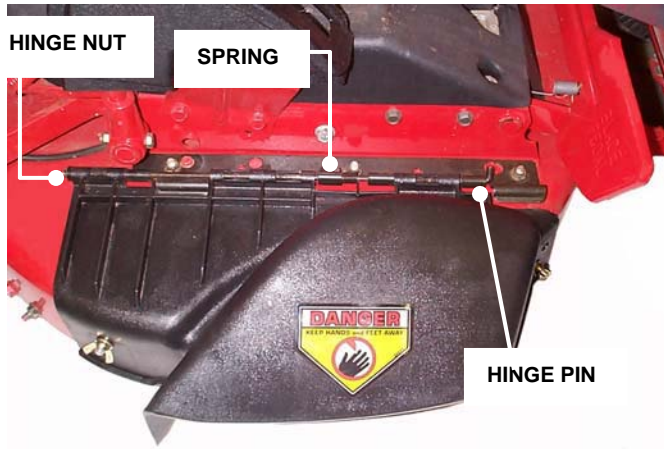

FIGURE 1.14
- B. Lift up, pivoting deflector on hinge, and determine if there is sufficient room to install the adapter. If there is not sufficient room, remove deflector by removing Hinge nut, Spring, and Hinge Pin. Save for future use. See Figure 1.14.